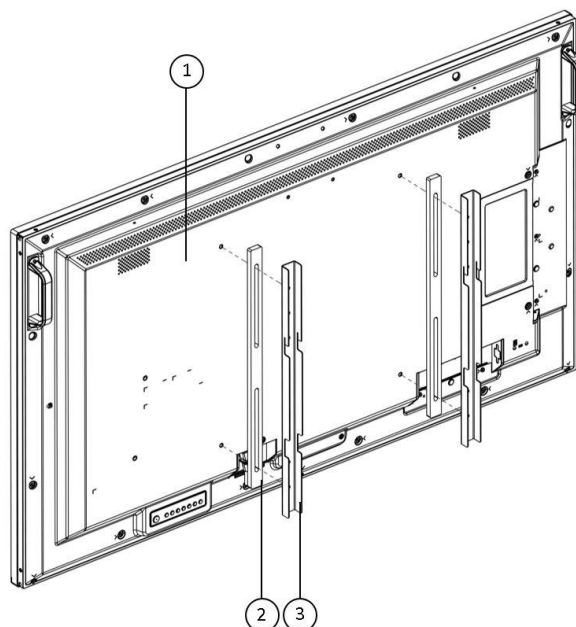

Fig. 13 Vertical supports assembly
Extract the large format Monitor ① from the packaging and mount the PVC height supplements (x2) ② with the vertical supports (x2) ③, as shown on Fig. 13. Use M6 screws (x4).